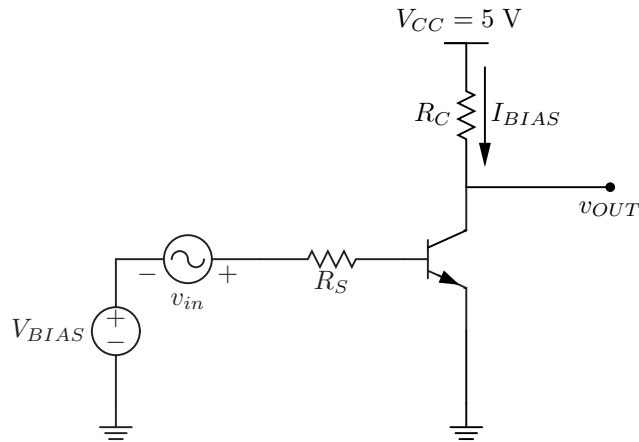

Figure 1: Common emitter amplifier test setup
1. Construct the common emitter amplifier as shown in Figure 1. Use a 10 k Ω resistor for R_C and a 51 Ω resistor for R_S .